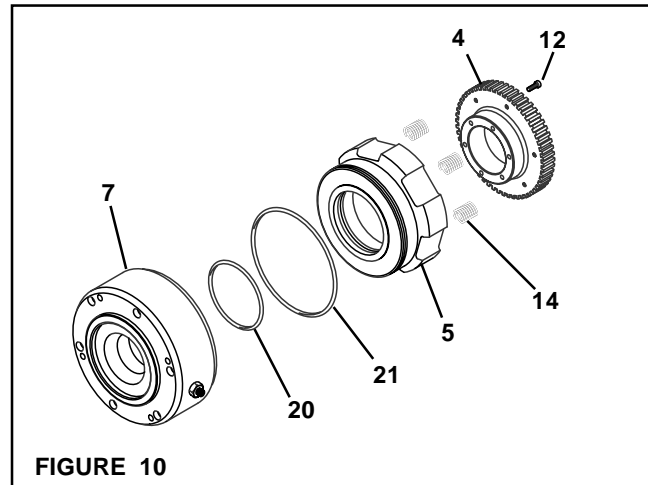

FIGURE 10
11. Pressing on the inner race of the two new Ball Bearings (Item 9), press the new Ball Bearings (Item 9) onto the Shaft (Item 1) (See Figure 10).
13. Alternately and evenly remove the six Socket Head Cap Screws (Item 12) (See Figure 10).
15. Remove the Friction Disc (Item 4) and old Compression Springs (Item 14) from the Piston (Item 5) (See Figure 10).
16. Gently apply air pressure to slide the Piston (Item 5) out of the Housing (Item 7) (See Figure 10).
17. Remove the old O-ring Seals (Items 20 and 21) from the Piston (Item 5) (See Figure 10).
18. Clean the o-ring grooves of the Piston (Item 5) and o-ring contact surfaces of the Housing (Item 7) with fresh safety solvent (See Figure 10).
19. Lubricate the new O-ring Seals (Items 20 and 21) with fresh o-ring lubricant; then, install the new O-ring Seals into the Piston (Item 5) (See Figure 10).
20. Slide the Piston (Item 5) and new O-ring Seals (Items 20 and 21) into the Housing (Item 7) (See Figure 10).
21. Install the new Compression Springs (Item 14) into the Piston (Item 5) (See Figure 10).
22. Place the Friction Disc (Item 4) on the Piston (Item 5) and Compression Springs (14); aligning the holes in the Friction Disc with the tapped holes in the Housing (See Figure 10).
23. Using 'C' clamps, press the Friction Disc (Item 4) onto the Piston (Item 5) (See Figure 10).
24. Apply a drop of Loctite® 242 to the threads of the six Socket Head Cap Screws (Item 12) (See Figure 10).
25. Install the six Socket Head Cap Screws (Item 12); then, alternately and evenly tighten the Socket Head Cap Screws (Item 12) to 30 In. Lbs. [3.4 N•m] torque. Remove the 'C' clamps (See Figure 10).